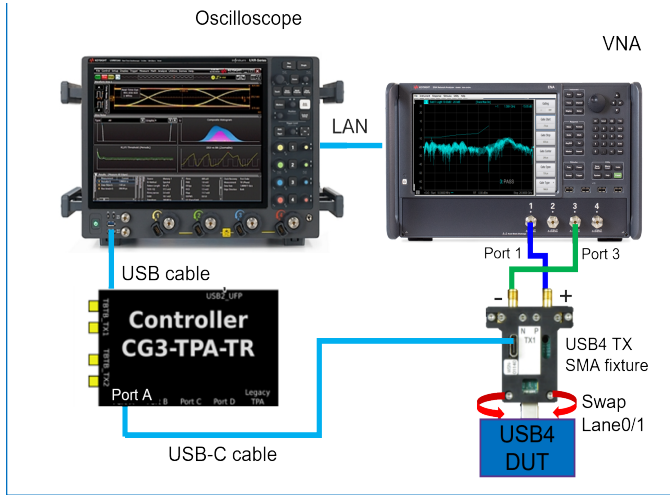

Figure 205 Tx Return loss test setup with Tx SMA test fixture
- 1 For the physical connections between the DUT & the Oscilloscope, see the connection diagrams in Figure 205 and Figure 206.